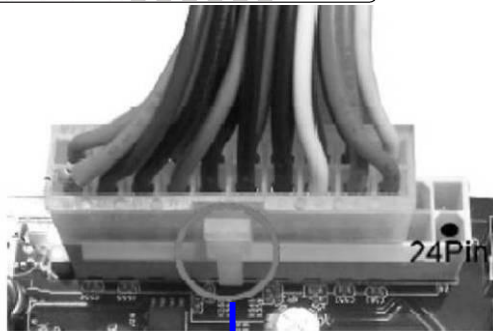

Figure 1: 20-pin power plug
** If you are using a 20-pin power plug, please refer to Figure1 for power supply connection. Power plug form power supply and power connectors from motherboard both adopt key design to avoid mistake installation. You can insert the power plug into